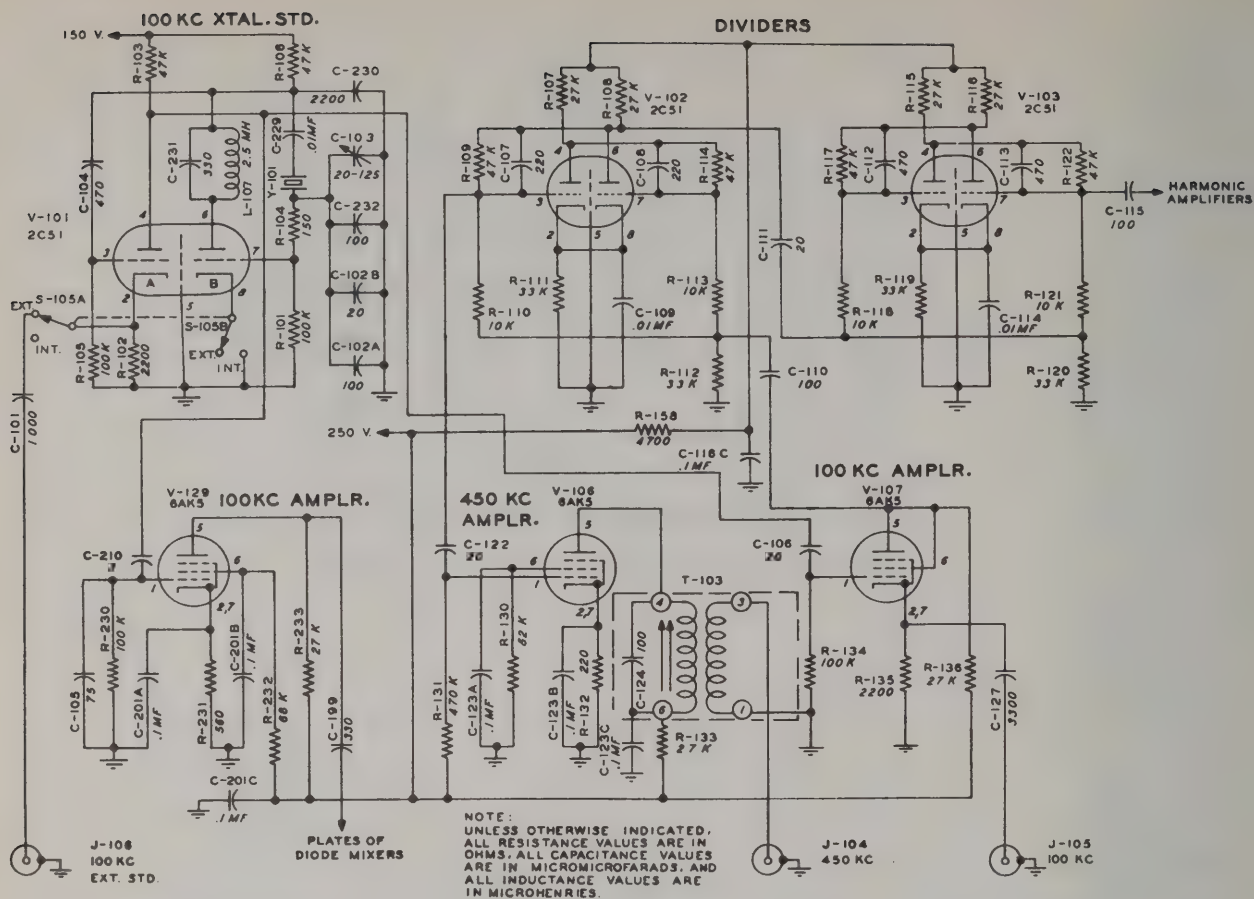

Figure 95. R-F Oscillator O-91/FRT-5, Crystal Oscillator, Dividers, and Amplifiers, Schematic Diagram.
- (d) *100-kc crystal oscillator and amplifier (fig. 95).* The 100-kc oscillator-and-amplifier circuit employs a twin triode tube, type 2C51 (V-101A and V-101B). This circuit is designed so that either the 100-kc crystal supplied with the oscillator or an external 100-kc crystal can be used as a standard. When an external crystal oscillator is used, its output is connected to the cathode of amplifier V-101A through J-102 and capacitor C-101. The switch S-105 must be turned to the EXT. position. This opens the cathode of V-101B, disabling the circuit. V-101A continues to operate as an amplifier, supplying a 100-kc signal to the 100-kc amplifiers V-107 and V-129. When the internal
(e) *100-kc amplifier (V-107) (fig. 95).* The 100-kc amplifier, V-107, employs a type 6AK5 tube, triode-connected. It is operated class A. Output of V-107 is coupled to the grids of the first crystal divider, V-102, through coupling capacitor C-110. A second connection is made, through coupling capacitor C-127 to J-105, a coaxial connector mounted at the rear of the chassis, permitting the 100-kc signal to be used externally as required.
(f) *Crystal dividers (fig. 95).* The crystal dividers are multivibrator, or "flip-flop" circuits. The purpose of this circuit is to divide the input frequency by four. The 50-kc divider V-102 will first be considered. The normal condition of the divider when no excitation voltage is being applied to the grids is that one section of the tube (say section A) is drawing plate current, and at the same time the plate current in section B is zero. When a negative voltage is applied to the grids of both sections, the plate current in section A will be decreased. This causes a decreased voltage drop across R-107, which in turn makes the voltage on the grid of section B more positive. Conse-
- (o) *450-kc amplifier (fig. 95).* The 450-kc amplifier employs a 6AK5 tube, V-106, operated class A. Its 50-kc input is furnished by the first crystal divider, V-102. A single-tuned output transformer, T-103, tunes the plate circuit to the ninth harmonic of 50 kilocycles, 450 kc. The secondary of this transformer is terminated in the 450-kc output jack, J-104.